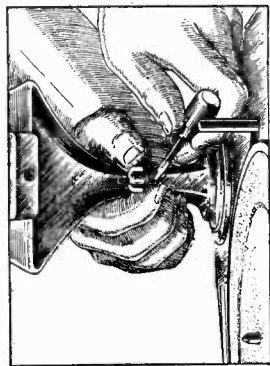

Figure 2—Adjusting height of tone arm
- Place a Home Recording needle into the pickup as far as it will go. Then lower the pickup on the side of the turntable. The needle should extend from $\frac{1}{8}$ " to $\frac{1}{16}$ " below the top of the metal edge of the turntable. If it does not, an adjustment cap be made by means of a screw located under the tone arm. Lifting the arm provides accessibility to the screw. See Figure 2.